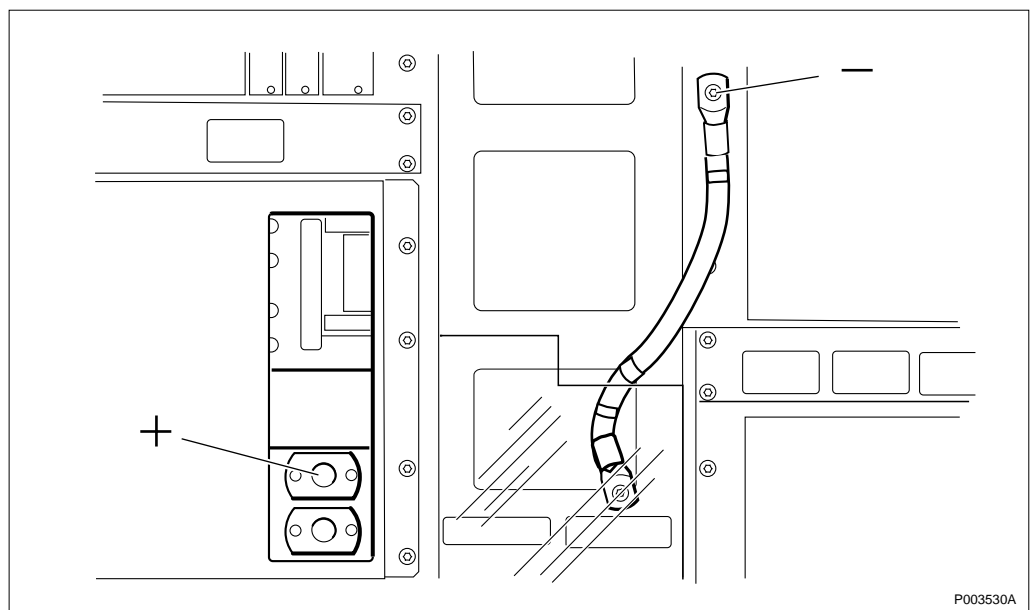

Figure 58 Measurement of battery voltage on BFU terminals
2. Refer to Figure 58 on page 111 and measure the DC voltage on the BFU terminals. If the voltage is low, replace the DC filter according to instructions in the section "DC Filter" in the chapter "RBS Field Repair". Repeat the measurement after replacing the DC filter.